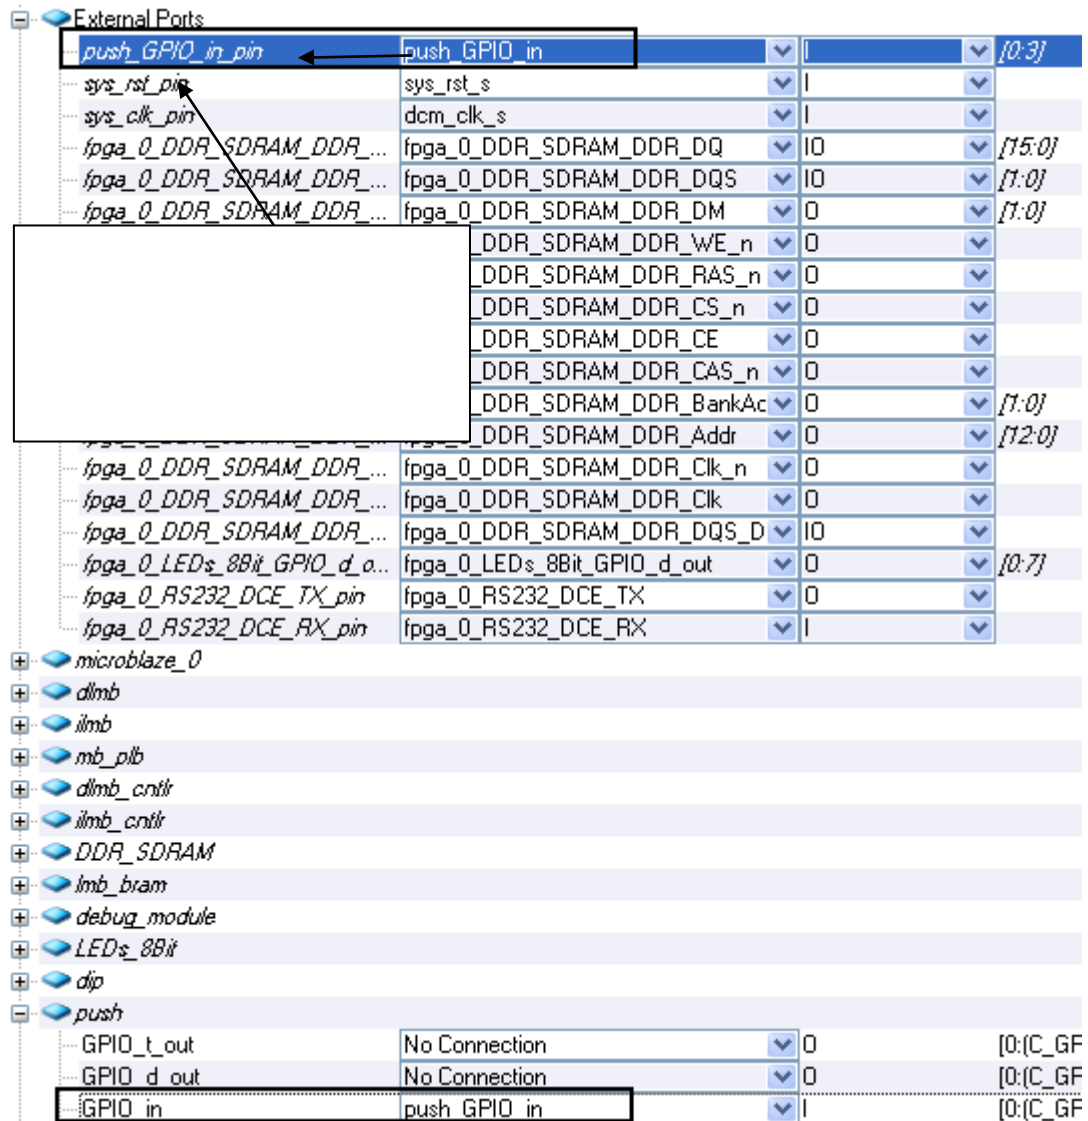

Figure 1-28. GPIO_in Port Connection Added to push Instance
- ① Make the **GPIO_in** port of the **push** instance as external by selecting **Make External**. You should see a new external net connection (**Figure 1-28**).